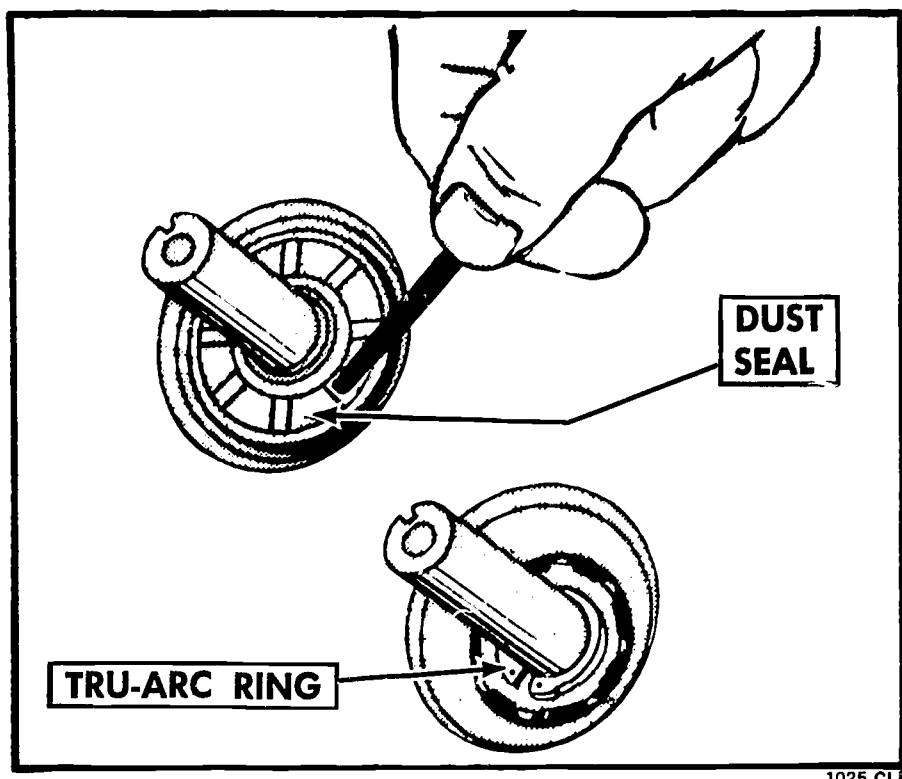

FIGURE 243. (a) Removing metal dust cover. (b) Tru Arc lock ring.
- (2) Remove dust cover if installed and Tru Arc lock ring on engines with ball bearings (Figure 243).
- (3) Remove alignment dowels if they are the removable type.